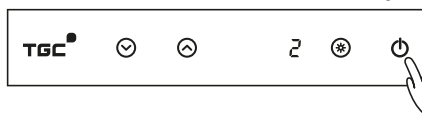

Fig. 6-6
- 2) TGC indicator and all icons of control buttons will display (Fig. 6-6).
- 1) During operation, press ON/OFF button [⏻] to switch off or delay switch off the range hood. (Fig. 6-6)